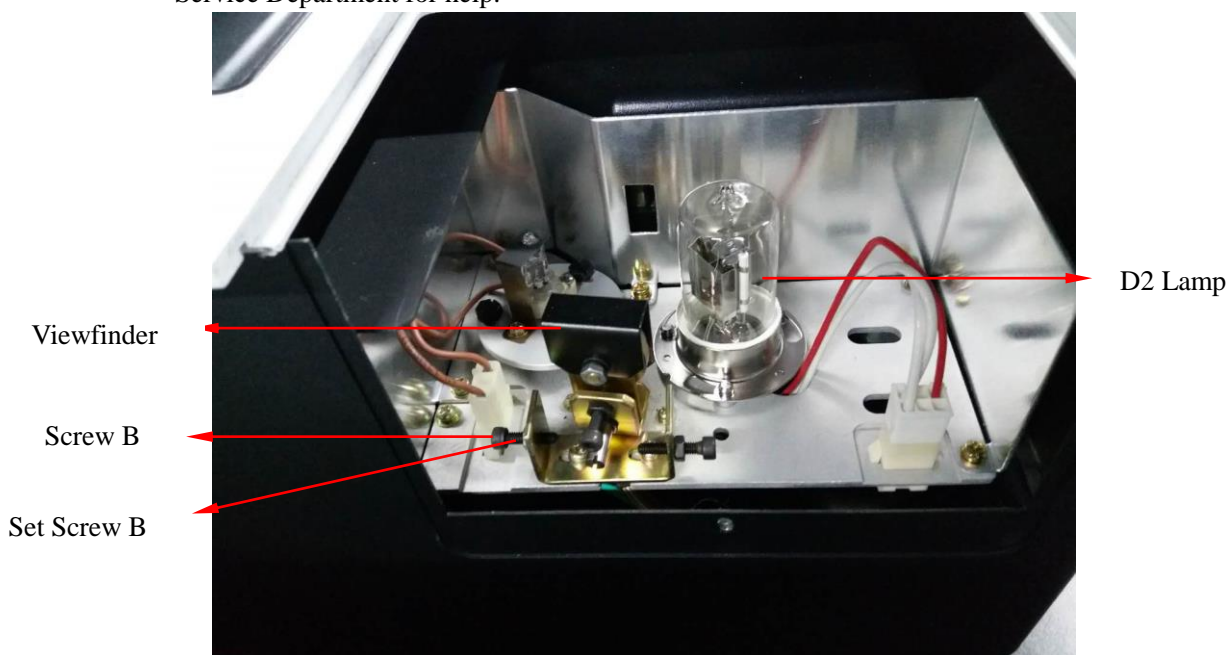
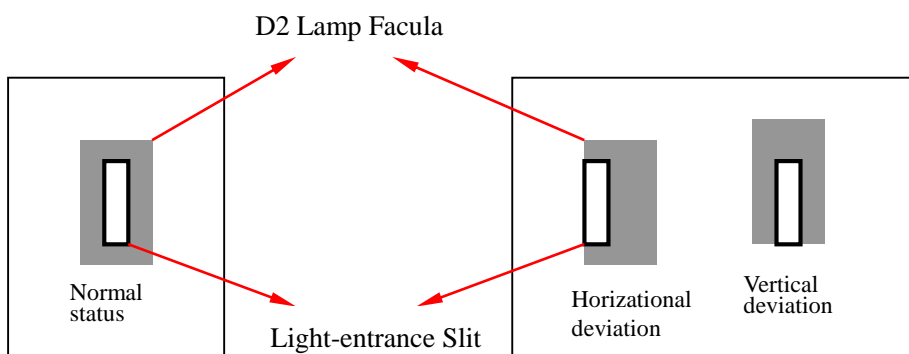

Figure 4-15 Replace and adjust D2 lamp
Figure 4-16 Relative position of D2 lamp facula and light-entrance slit
A) The adjustment of D2 lamp position are as follows, as shown in Figure 4-15 and Figure 4-16:
- (1) Turn off WI lamp.
- (2) Set wavelength below 300nm.